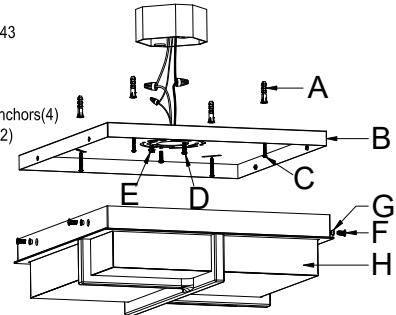

Fig.2
CONNECTION THE WIRES (Fig.2)
6. Connect the electrical wires as shown in Fig.2, making sure that all wire nuts are secured. If your outlet has a ground wire (green or bare copper), connect the fixture's ground Wire to it. Otherwise, connect the fixture's ground wire directly to the mounting plate using the green screw (E) provided. Tuck the wire connections neatly into the junction box.